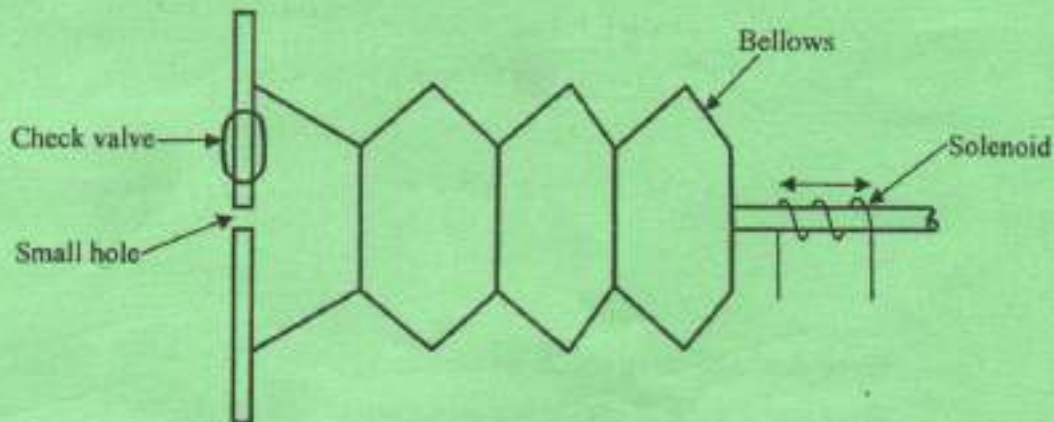

Fig. 2
- (c) (i) State the equation of a proportional plus derivative (PD) controller.
7. (a) Figure 2 shows a diagram of a pneumatic time-delay actuator. Describe its operation. (5 marks)